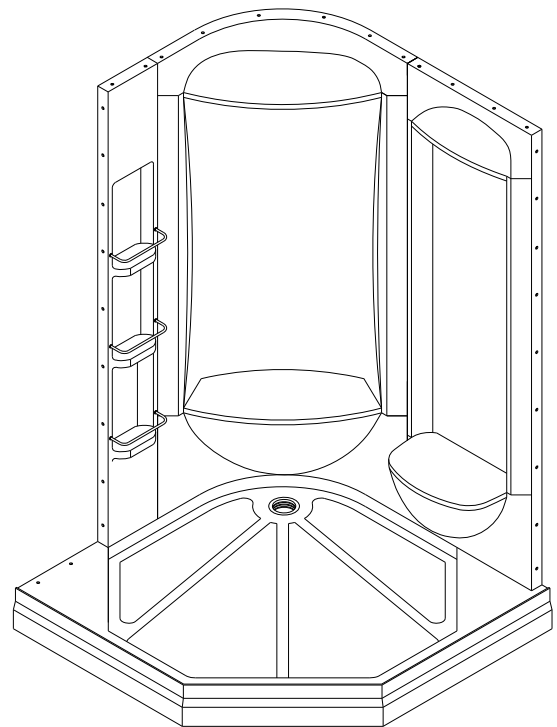

Fig 8
8. Connect the **Shelf panel (04)** and the **Back panel (02)** with **Bolt M6x16 (with nut, washer) (24)**. Secure the shelf panel to the tray with **Bolt M6x25 (22)**. See Fig 8 for details.